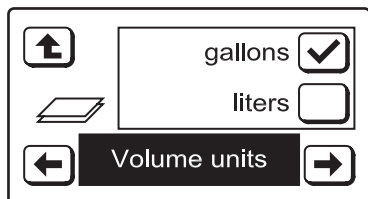

FIG. 72
5. Press the **SET UNITS** button and the display will change to show the **Volume units** screen (See Figure 72).